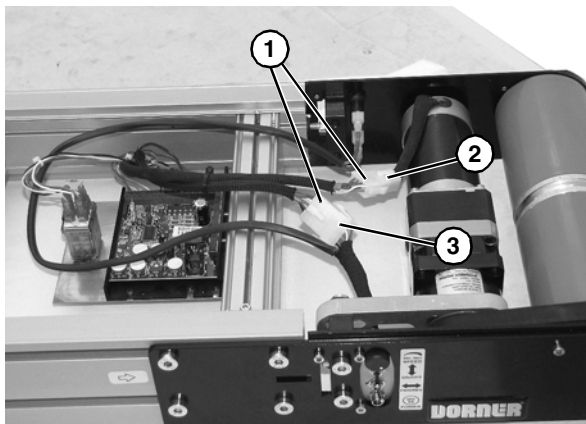

Figure 67
3. Disconnect two wiring harness connectors (**Figure 67, item 1**) from motor connector (**Figure 67, item 2**) and switch wiring connector (**Figure 67, item 3**).